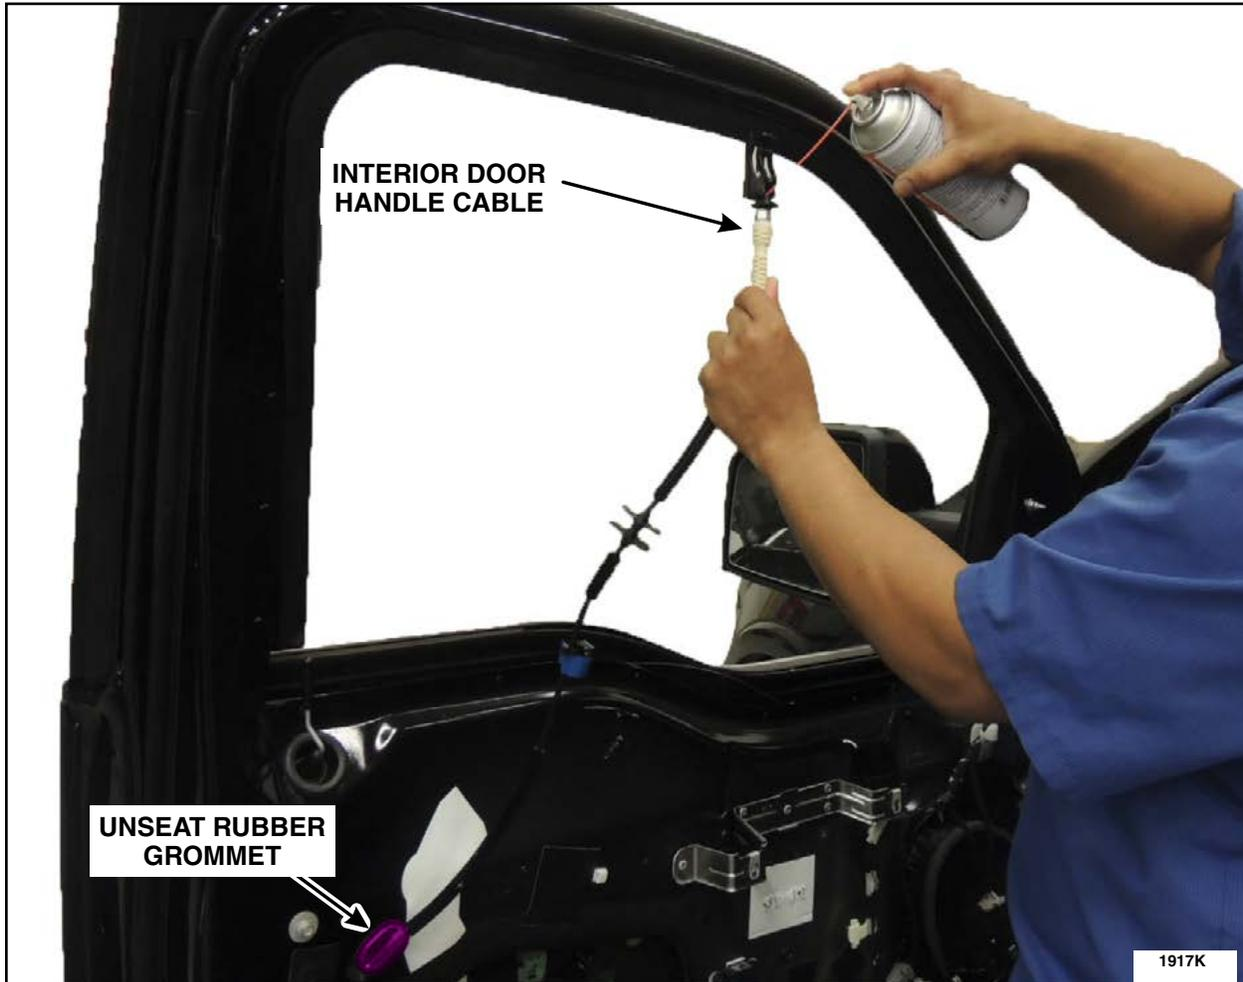

FIGURE 19
23. Unseat the interior door handle release cable rubber grommet and release any cable retaining clips. Hold the end of the cable in the upright position and spray Motorcraft® XL-6 lubricant for 5 seconds into the cable. See Figure 19.